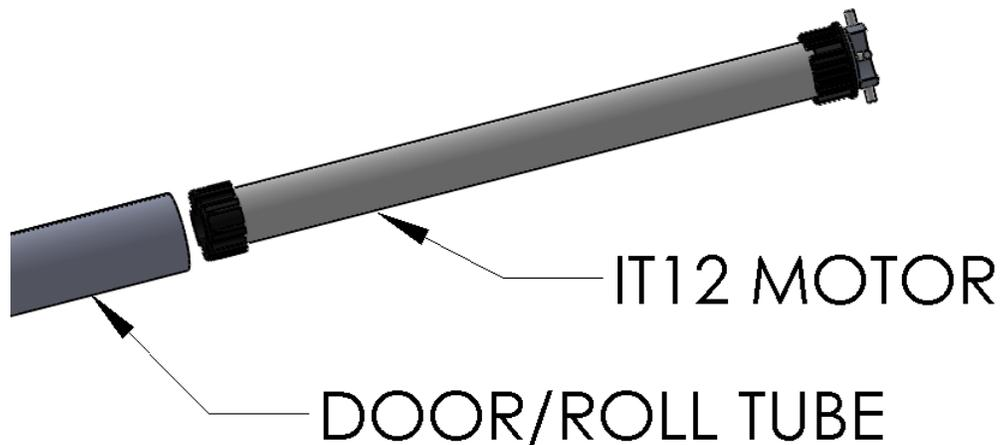

Figure 4 Insert IT12 Motor into Door Roll Assembly
2. Slide the IT12 Motor into the Door Roll Tube (Figure 4 Insert IT12 Motor into Door Roll Assembly)